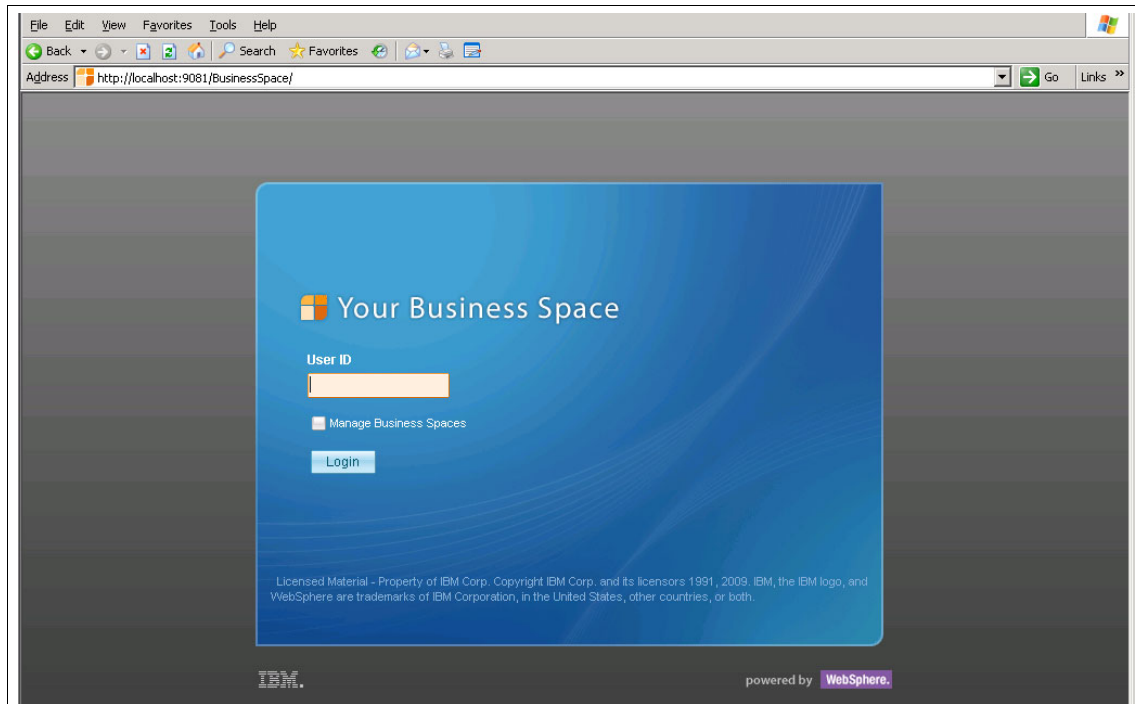

Figure 8-83 Business Space login panel
1. Log on to the Business Space. See Figure 8-83 on page 284.